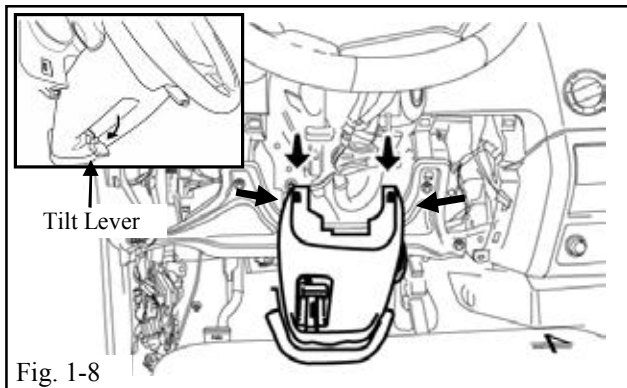

Fig. 1-8
- (i) Release the Tilt Lever. (Fig. 1-8)
- (j) Press inwards on each side of the Steering Column Cover while pulling downward to remove the cover. (Fig. 1-8)